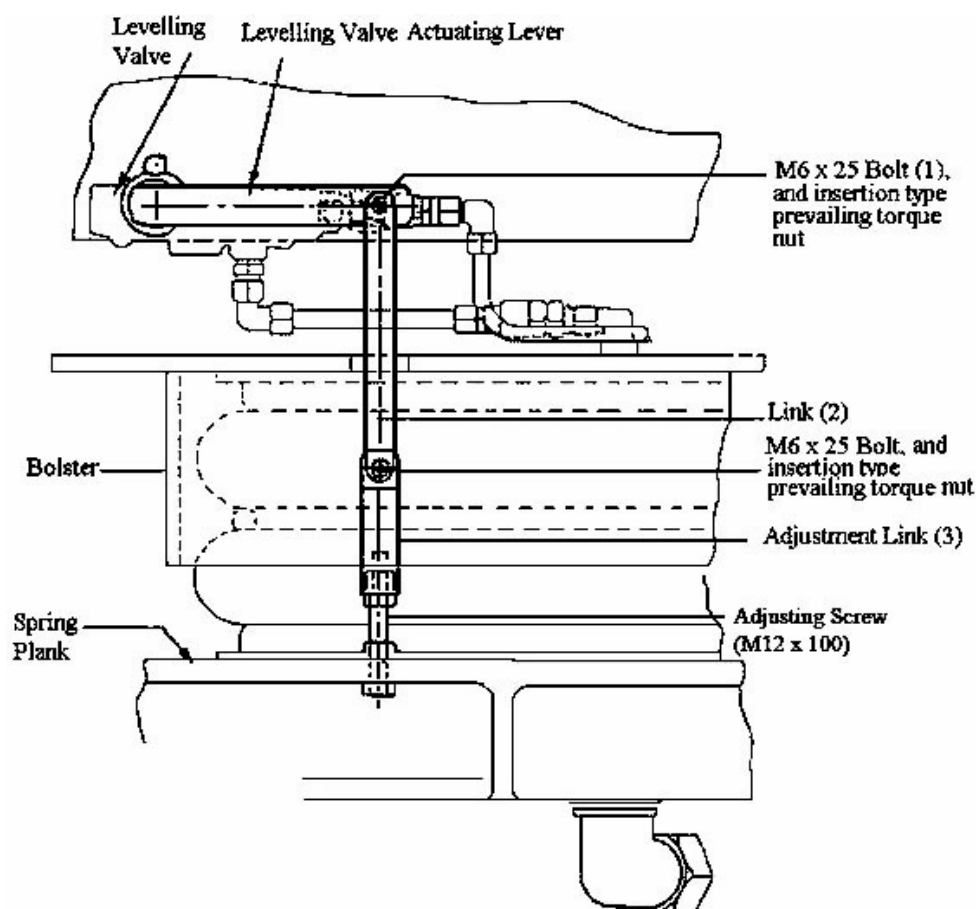

Figure 7.1: Arrangement of Levelling Valve Linkage
7. Fit two levelling valves each with two in-line filters and linkages (see Figure 7.1).